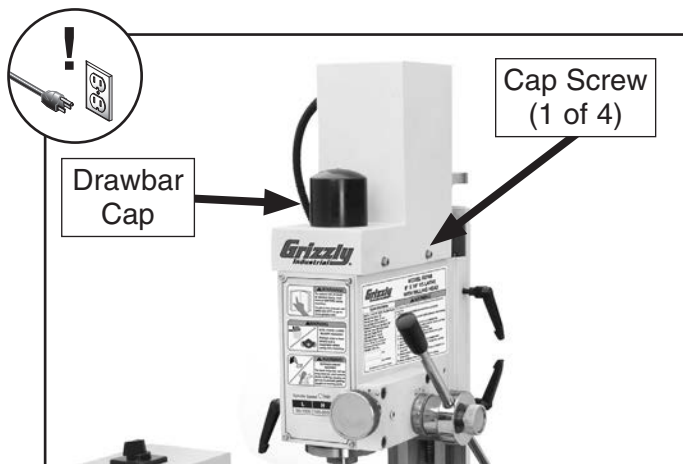

Figure 152. Location of mill motor cover screws.
2. Remove drawbar cap, then remove motor cover by removing cap screws (see **Figure 152**).